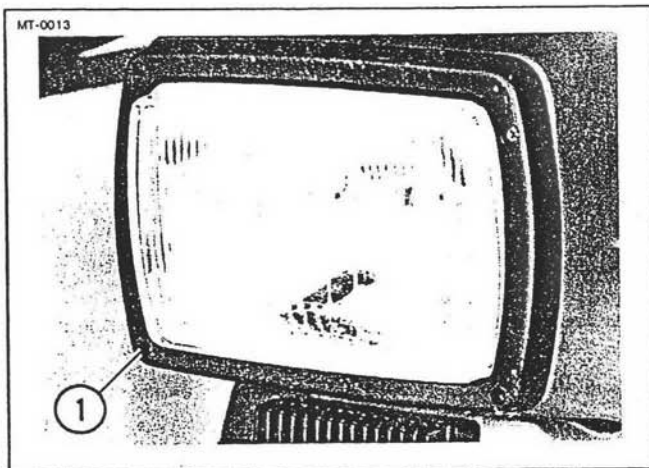

Figure 5-10. Headlamp Mounting Screws
1. See Figure 5-10. Using a crosstip screwdriver, remove screws (1).